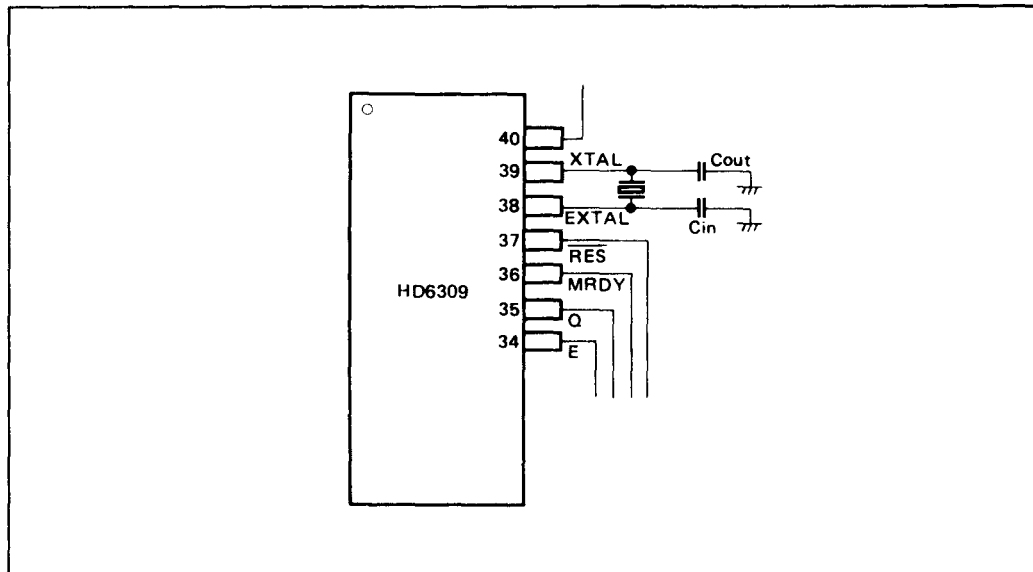

Figure 8. Board Design of the Oscillation Circuit
**Note for Board Design of the Oscillation Circuit:** In designing the board, the following notes should be taken when the crystal oscillator is used. See figure 8.